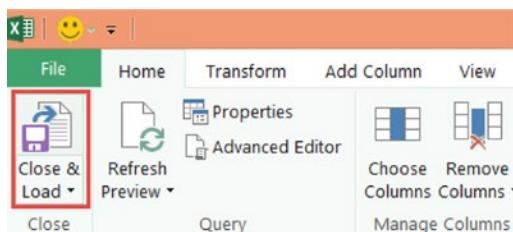

Figure 23-22. Click Close & Load to load the data into an Excel workbook
1. Click Close & Load on the Power Query Home tab (see Figure 23-22).